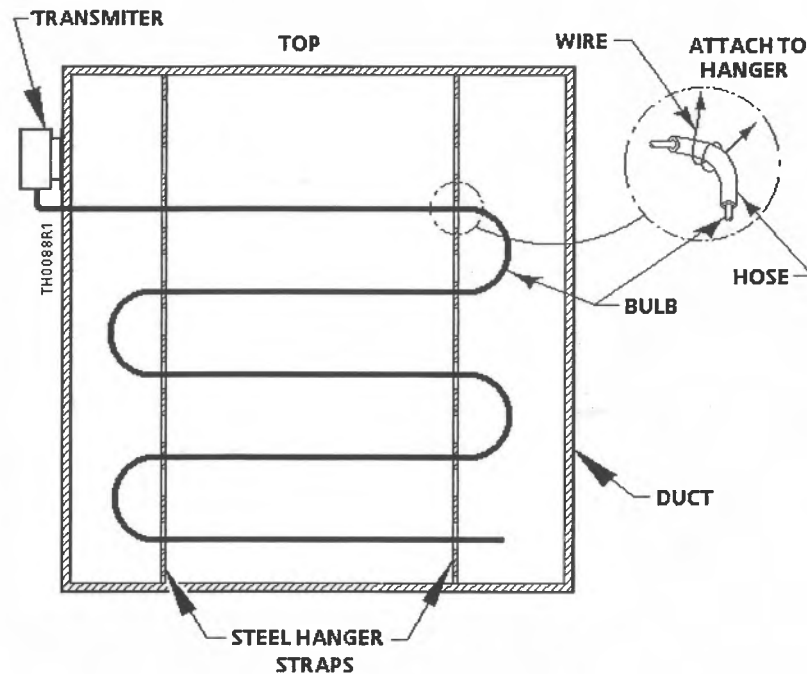

Figure 1. Typical Mounting in Walk-in Duct.
### Large walk-in Ducts (Figure 1)
6. Mount the bulb in a horizontal, serpentine manner, attaching the bulb to the strap as shown in detail in *Figure 1*.